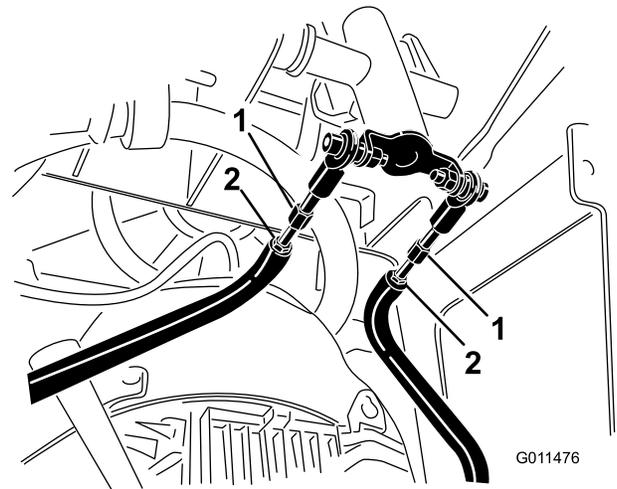

Figure 53
- D. Loosen the jam nuts on the traction rods, under the control panel (Figure 53).